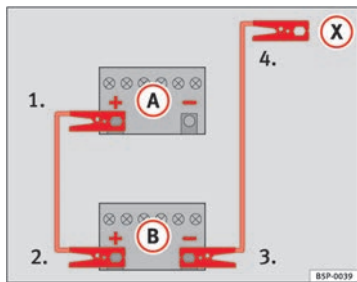

Fig. 198 How to connect the jump leads
⇒ fig. 198 (A) shows the flat battery and (B) the charged battery.
1. Connect one end of the red jump lead to the positive ⇒ fig. 198 (+) terminal of the vehicle with the flat battery ⇒ ⚠.
4. Connect the other end of the black jump lead (X) to a solid metal component which is bolted on to the engine block, or onto the engine block itself of the vehicle with the flat battery. Do not connect it to a point near the battery ⇒ ⚠.